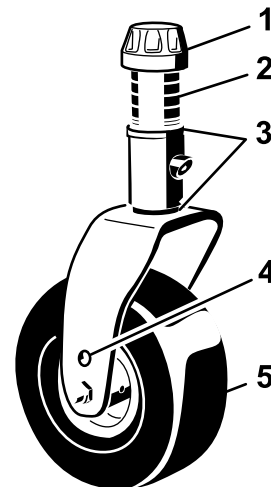

Figure 14
4. Remove the tensioning cap from the spindle shaft and slide the spindle out of the caster arm (Figure 14).